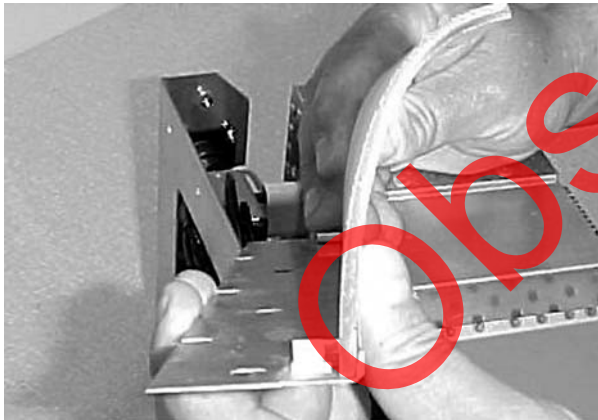

Figure 4-7 Flood Reflector Curve and Retaining Bracket
**Flood Reflectors:** See Figures 4-7 and 4-8. The edge of the reflector sits on the retainer springs on the inside edge of the bracket. The lip on the flood bracket goes to the inside of the lamphead and wraps around the edge of the reflector.